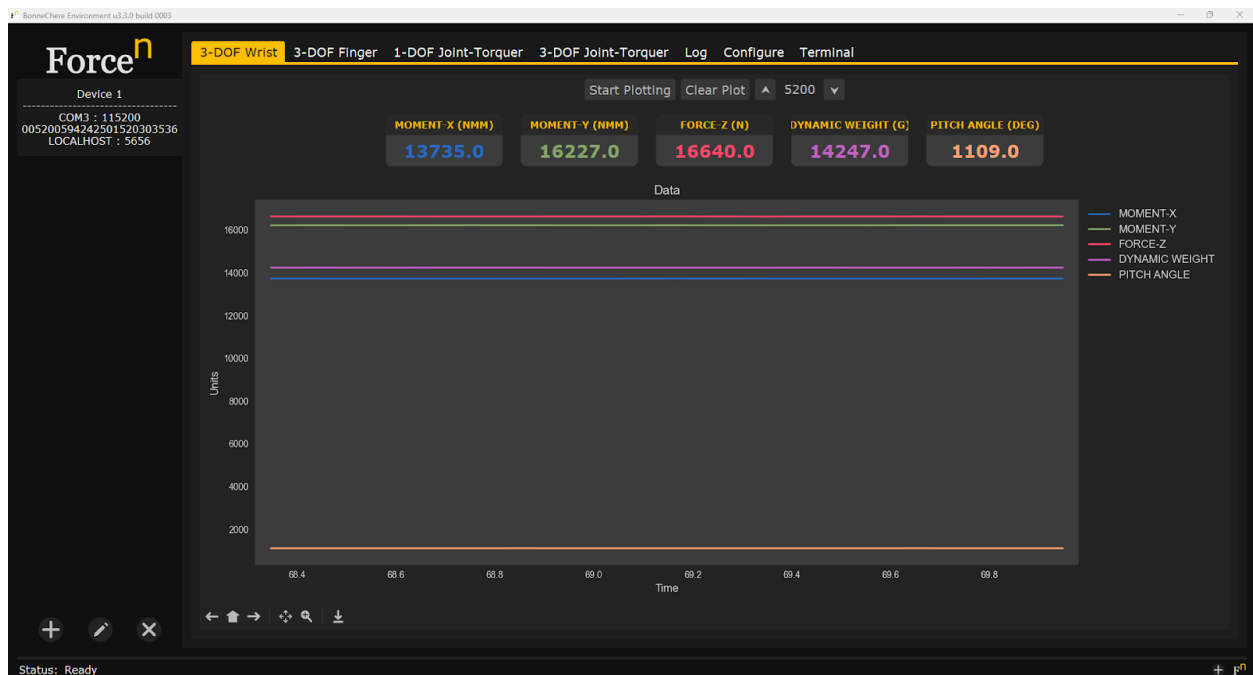

Figure 5: Plotting sensor output data in BonneChere
- Click “Start Plotting” to visualize the data in Mx (Nmm), My (Nmm), and Fz (N) with respect to time in seconds. If it is a sensor system with dynamic weight compensation, Dynamic Weight (g) and Pitch Angle (deg) will also be shown. The “Start Plotting” button will automatically place the sensor into RUNNING (continuous data streaming) mode. See Figure 5 below for reference.
- To modify the time window being displayed on the plot, change the “5200” value seen in Figure 5.